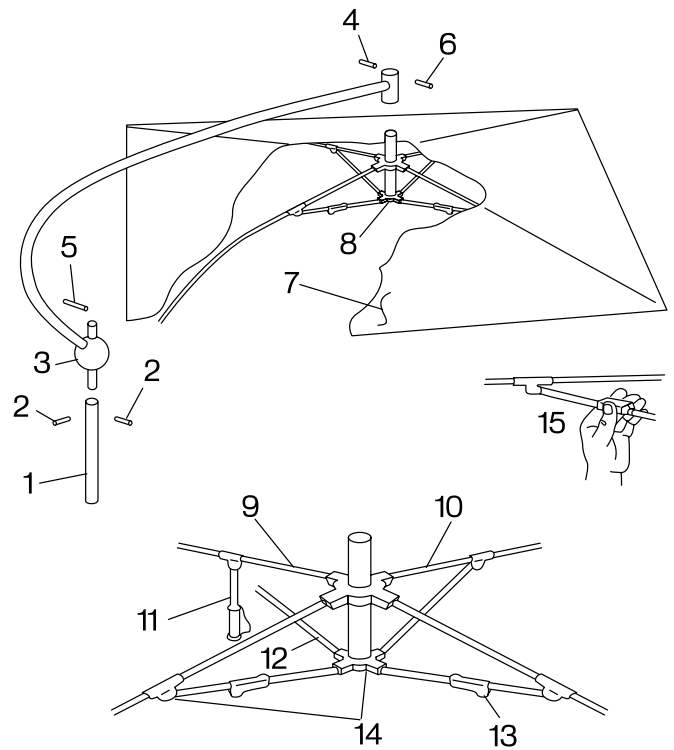

Figure 4-19. Umbrella Illustration
2. Insert ball stud (Figure 4-19,3) on curved shaft into umbrella support shaft (Figure 4-19,1), align holes, and drive 3/16" X 1" spiral spring pins (Figure 4-19,2) into position. Install locking handle (Figure 4-19,5).
3. Place canvas cover (Figure 4-19,7) over umbrella frame assembly (Figure 4-19,8) and hook corners to bows - tie each bow securely with tie straps.
4. Insert umbrella frame assembly (Figure 4-19,8) with canvas in place into tube on curved shaft (Figure 4-19,3) and insert bolt (Figure 4-19,6). Tighten snugly with nut (Figure 4-19,4)
5. Install complete umbrella into clamp on umbrella mounting bracket. Each bow may be raised individually until locked into open position (Figure 4-19,15). Each bow has two positions in which it can be locked open. This is to allow for arc stretch in canvas.